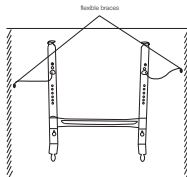
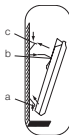

Figure 5
Figure 6
- Place the bracket on the wall and fasten it (Fig. 5);
- The device is attached to the bracket as follows (Fig. 6):
- put the lower part of the convector to the bracket using special holes at the bottom of the convector (Fig.6, a);
- holding the convector by hand secure the flexible braces (Fig. 5) provided on the bracket in special rectangular holes on the convector (Fig. 6, b);
- put the upper part of the convector on the bracket securing it by the latches on the bracket (Fig. 6, c);